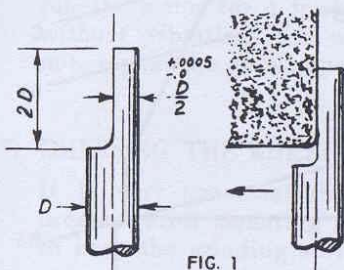

FIG. 1
HALVING STRAIGHT SHANK CUTTERS (FIG. 1) — Before inserting cutter into collet, release index unit "A" and turn spindle until lock pin engages one of the notches. This prevents spindle from turning while halving the cutter. Lock thumb-screw "C" with graduated swivel-arm "B" at zero. Insert cutter so that flat side is parallel with face of grinding wheel and clamp cutter in this position. During the grinding operation, move cutter back and forth while feeding onto wheel by turning knurled collar "D". All cutters, while being halved, must be accurately measured with a micrometer.
(A) WITH PLAIN WHEEL GUARD (OR) WITHOUT BUILT-IN DIAMOND DRESSER lock diamond dresser into collet with swivel arm "B" at 70°-80° (fig. 1). Move diamond point across face of
1) HALVING STRAIGHT SHANK CUTTERS (see Fig. 1).
f) Make final adjustment for length of cutter lip with stop screw G1. Feed cutter into the wheel by holding knurled knob M with right hand while turning graduated dial knob D with left hand after each grinding pass. Rock cutter back and forth across the face of the wheel to prevent overheating or annealing (see also dressing instructions for halving cutters). When the cutter lip is finished it must measure exactly one half of the shank diameter (see Fig. 1).
1) CYLINDRICAL FLAT CUTTERS (see Fig. 1).
1) GRINDING TIP OR END CUTTING RELIEF ON CYLINDRICAL AND CONICAL-FLAT CUTTERS (see Fig. 1 and Fig. 2).